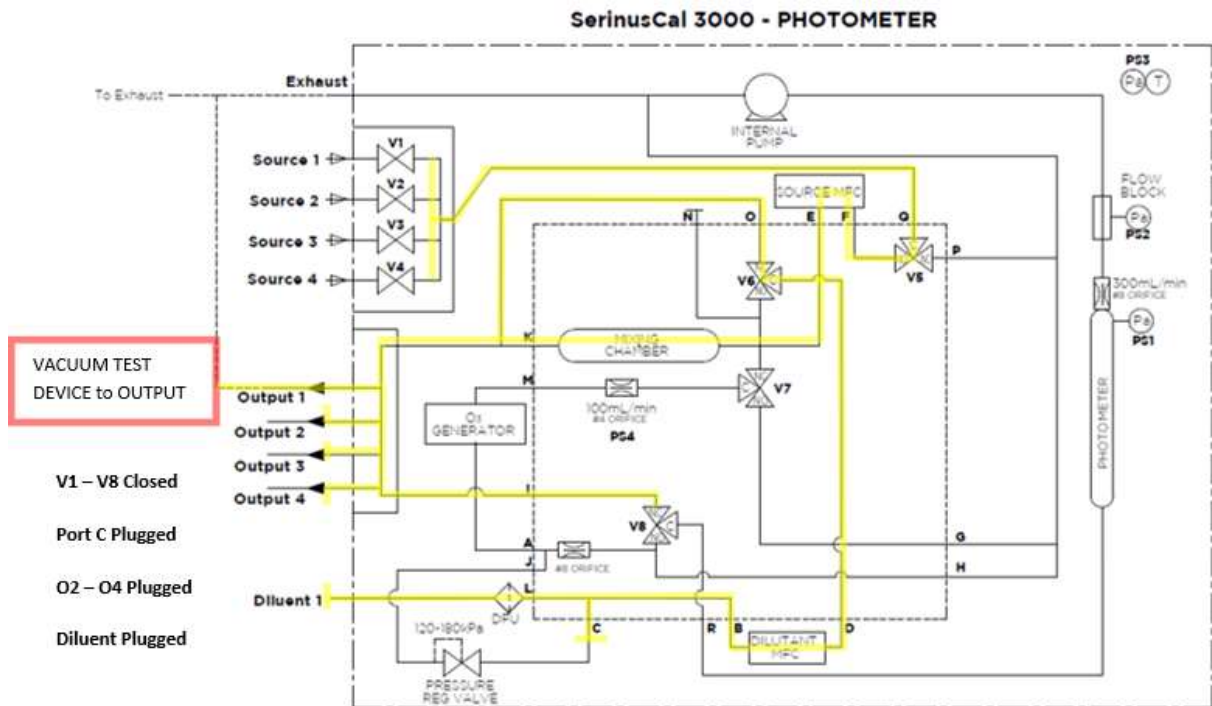

Figure 94 – Leak Check: Isolate MFC’s Schematic
- **If the leak test fails** the MFC plumbing is leaking. Refer to Figure 94 and work away from the vacuum test device to further isolate and rectify leak.